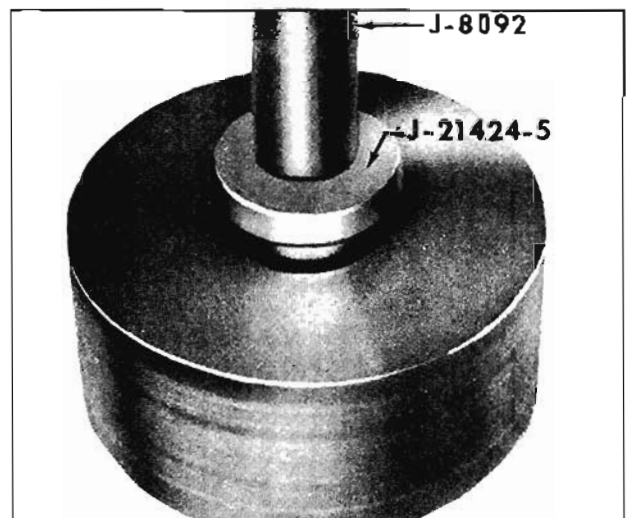

Fig. 6-359 Installing Clutch Drum Bushing
1. Install J-21424-5 in front of forward clutch drum. Using Drive Handle J-8092, press bushing into bore until Tool J-21424-5 bottoms on hub. (Fig. 6-359)